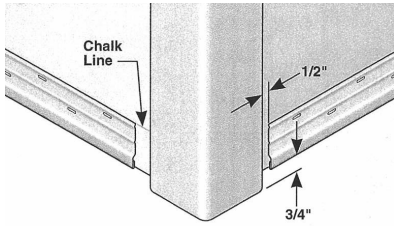

Fig.1 Standard Corner Post
- To allow for movement, install starter strip (or J-channel) $\frac{1}{2}$ " from corner post (see Figure 1).